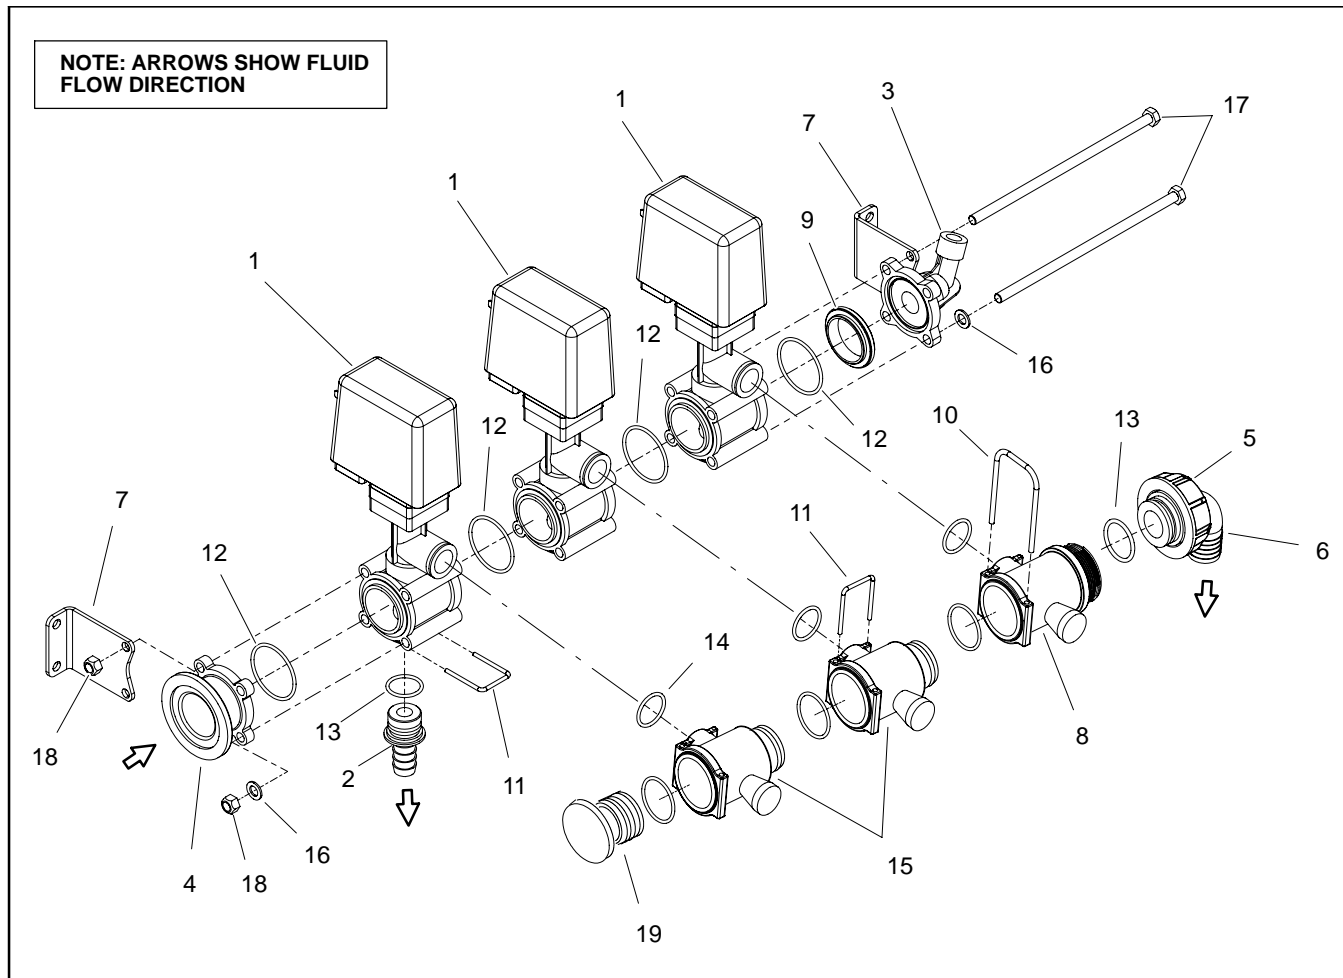

Figure 47
Disassembly (Fig. 47)
2. Disassemble boom valve manifold assembly as needed using Figure 47 as a guide. Discard all removed O-rings and gaskets.
Assembly (Fig. 47)
1. Assemble boom valve manifold assembly using Figure 47 as a guide.